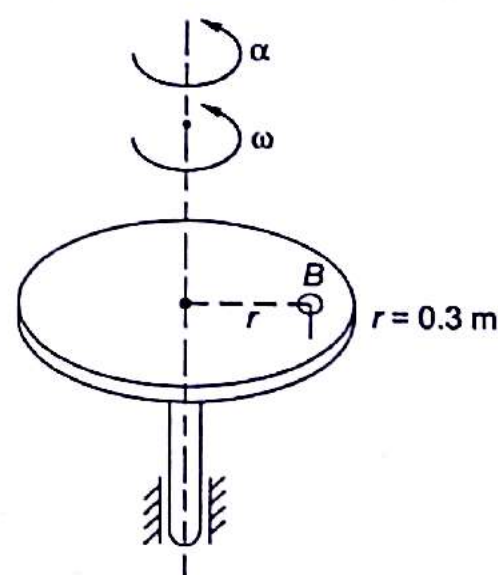

Fig. 13.13
13.3 A small block B on the rotating disc starts sliding due to limited static friction, if the total acceleration on the block is 3.5 m/s^2 , as shown in Fig. 13.13. Block is located at a radius of 0.3 m from the axis of rotation. The disc starts from rest at $t = 0$ and is uniformly accelerated at 4 rad/s^2 . Determine the time t and angular velocity of the plate when the block starts sliding.